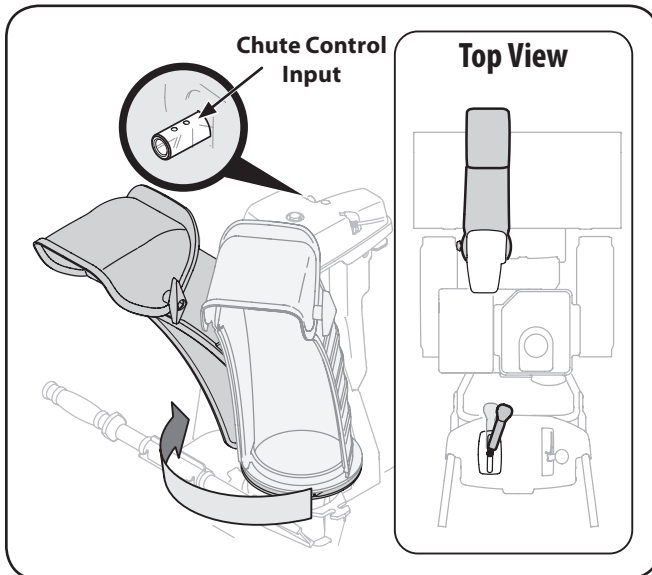

Figure 3-9
- Squeeze the trigger on the joystick and rotate the chute by hand to face forward. The holes in the chute control input will be facing up. See Figure 3-9.
NOTE: The joystick will be angled slightly to the right at the one o'clock position. See "Top View" in Figure 3-9.